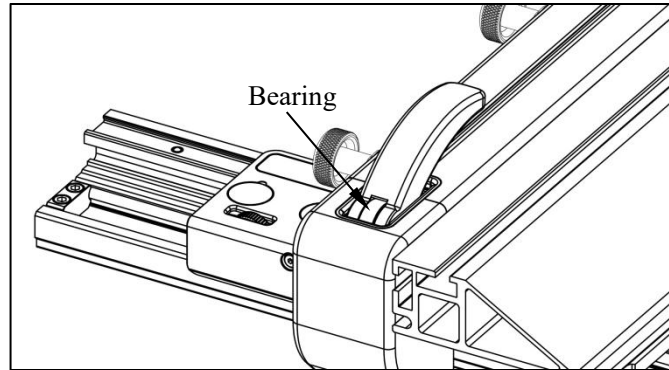

Fig. 31
- Do not let exposed bearings come into contact with water or sweat. Apply anti-rust spray in a timely manner (see Fig. 31).